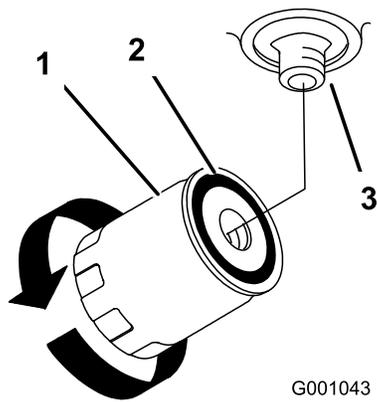

Figure 75
4. Remove the old filter and wipe the filter-adapter gasket surface clean (Figure 75).
7. Turn the oil filter clockwise until the rubber gasket contacts the filter adapter, and tighten the filter an additional 1/2 turn (Figure 75).